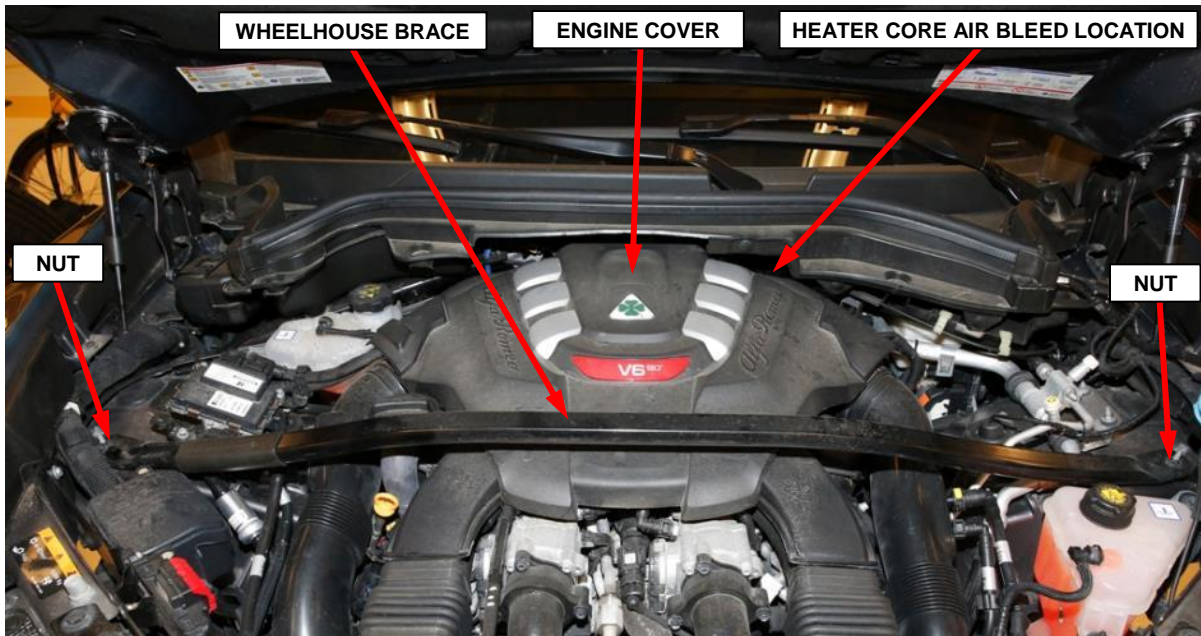

Figure 10 – Wheelhouse Brace and Engine Cover
28. Remove the engine compartment wheelhouse brace nuts then remove the wheelhouse brace (Figure 10).
29. Lift up on the engine cover to release it from the retaining pins, then remove the engine cover (Figure 10).